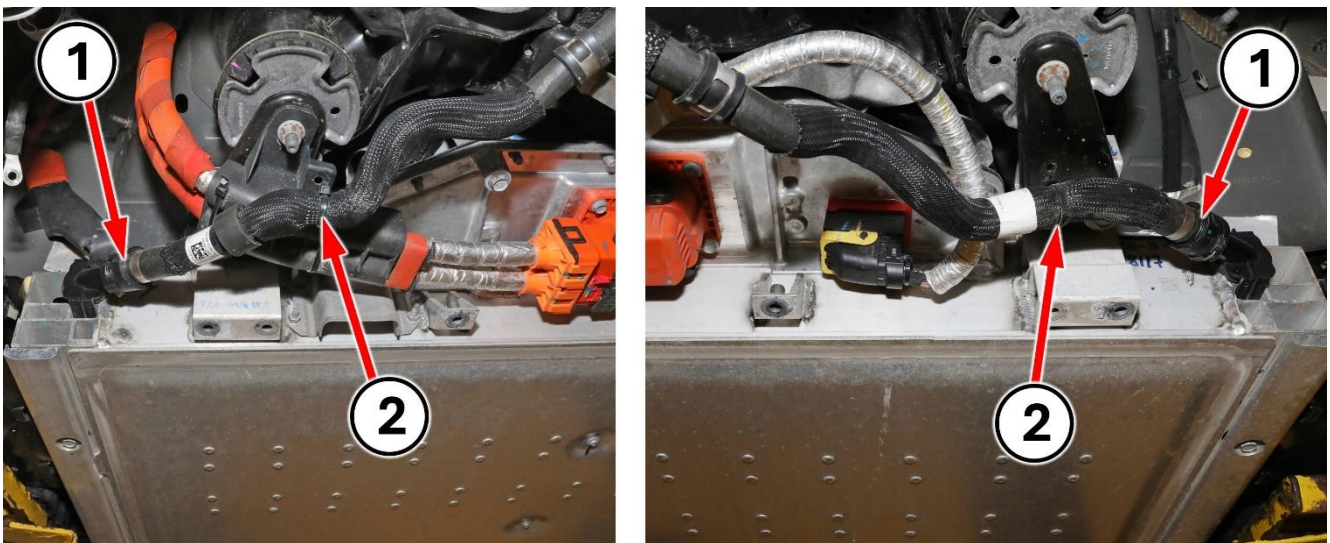

Figure 18 – High Voltage Battery Rear EDM Coolant Hose Connections
39. Release the coolant hose push pin retainers (Figure 18).
40. Place a drain pan under the coolant hoses (Figure 18).
41. Disconnect the coolant hose connectors (Figure 18).
42. Drain the coolant (Figure 18).